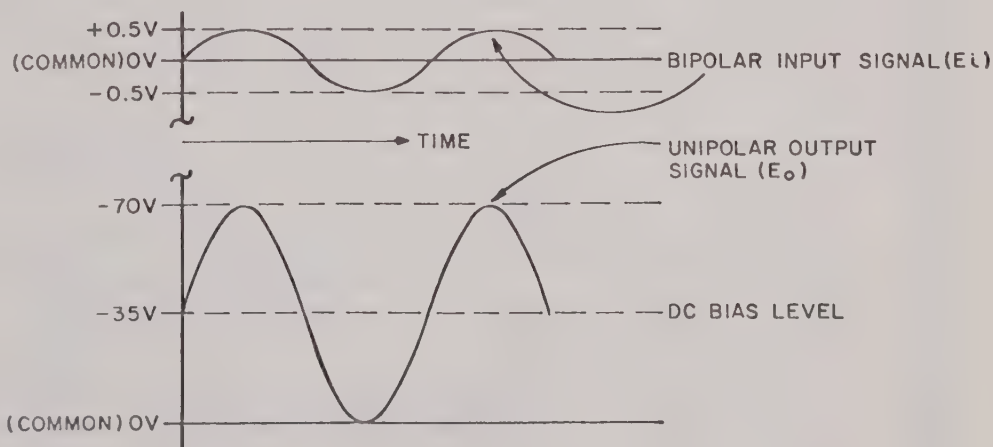

FIG. 3-7 INPUT/OUTPUT WAVEFORMS AND D-C BIAS.
where "S.R." is the slewing rate specified for the individual OPS model and " $E_o \max$ " is its rated maximum output voltage. For *bipolar* input waveforms, the OPS, being a *unipolar* device, must be biased to accommodate the output swing. If this were not done, the OPS would reproduce only the *negative*-going part of a bipolar input waveform. (Refer to FIG. 3-7.)
- 3-27 Since the output signal is bipolar, the d-c output voltage level of the OPS is set to the middle of its d-c output range (≈ 35 volts), so that the amplified input signal will be totally confined to the OPS output range: It will start from (-) 35 volts, go to (-) 70 volts, return to (-) 35 volts and go to 0 volt and so on. (Refer to FIG. 3-7.) The resulting output waveform will be modulated d-c and will be unipolar, i.e., varying in *one* direction from zero.